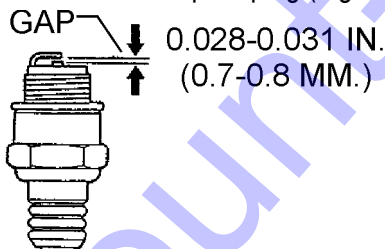

Figure 17. Spark Plug Gap
1. Remove and clean the spark plug (Figure 17).